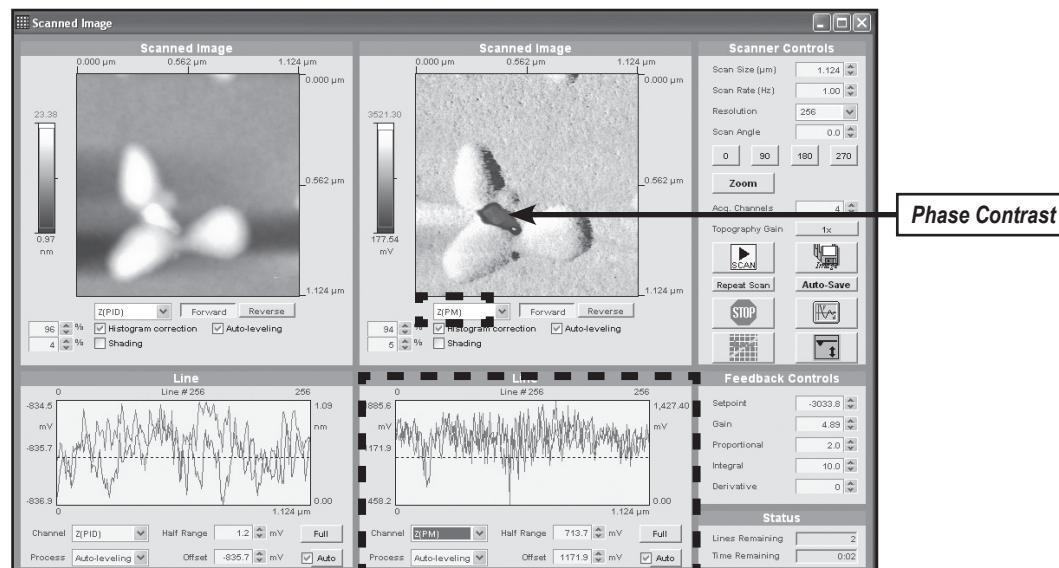

Figure 6.10: Phase Image obtained simultaneously with topography image
6. Next display the Phase Image by switching one of the images to the Z[PM] channel or Phase channel (it depends if your input selections are virtual or raw channels). Evaluate the Phase Signal by checking to see if the green and red Z[PM] traces in the line profile window coincide. Also, the forward and reverse images of the Phase Signal should show the same contrast, Figure 6.10.